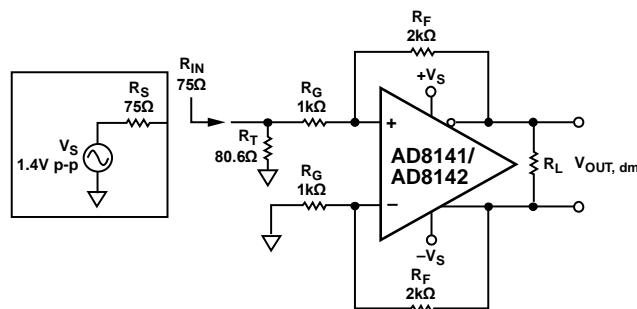

Figure 38. Adding Termination Resistor  $R_T$
3. It can be seen from Figure 38 that the effective  $R_G$  in the upper feedback loop is now greater than the  $R_G$  in the lower loop due to the addition of the termination resistors. To compensate for the imbalance of the gain resistors, a correction resistor ( $R_{TS}$ ) is added in series with  $R_G$  in the lower loop.  $R_{TS}$  is the closest 1% resistor to the Thevenin equivalent of the source resistance  $R_S$  and the termination resistance  $R_T$ , equal to  $R_S || R_T$ .